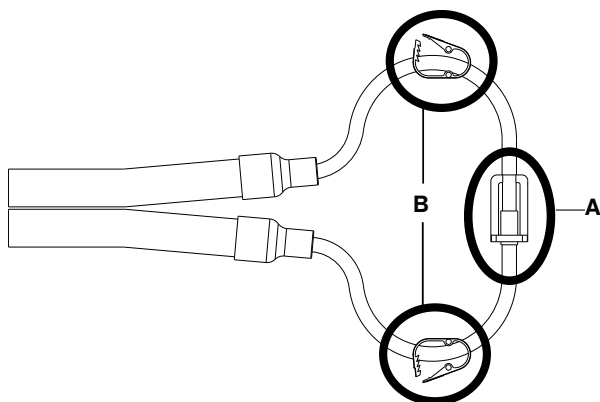

Figure 33 – Klik-Tite hose ends are closed and clamps are open
- b. If you have **Click-Tite** hoses, make sure that the connector ends are connected and closed (A), and clamps are open (B). Complete this for all three hoses. Figure 33